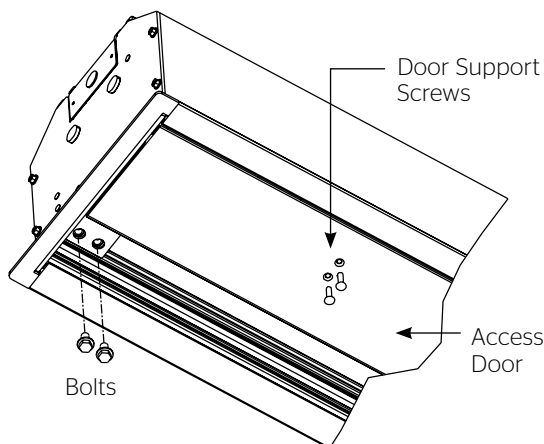

Figure 2
1. Remove the access door. First, remove the 2 bolts from each end with a 9/16" open wrench or socket driver. Next, use a 5/32" hex key to remove the two screws in the center of the access door. This will allow the door to drop open on the hinges (Figure 2).